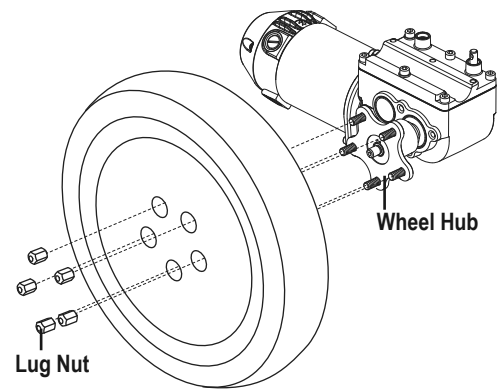

Figure 11. Drive Wheel with Five Lug Nuts
4. Remove the hubcap, if equipped, then remove the three (3) or five (5) lug nuts from the wheel hub. **See figure 11 or 12.**